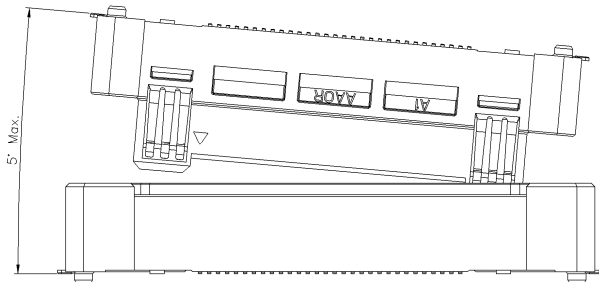
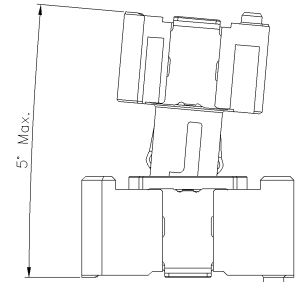

图 8/Fig8
图 9/Fig9
f. 图 8 及图 9 所示指导角度，插入前不可大于此角度（未锁定）；
Guide Angle as shown in figure 8 and figure 9, not greater than this Angle before insertion (not locked)